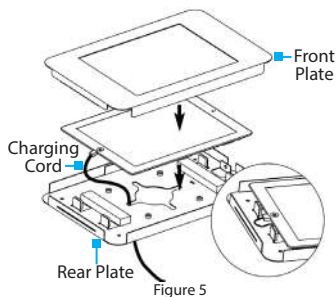

Figure 5
1. Insert the **Power/Data Cable** through one of the openings, located in the rear/sides of the **Rear Plate**, and into the **iPad**. (Figure 5)